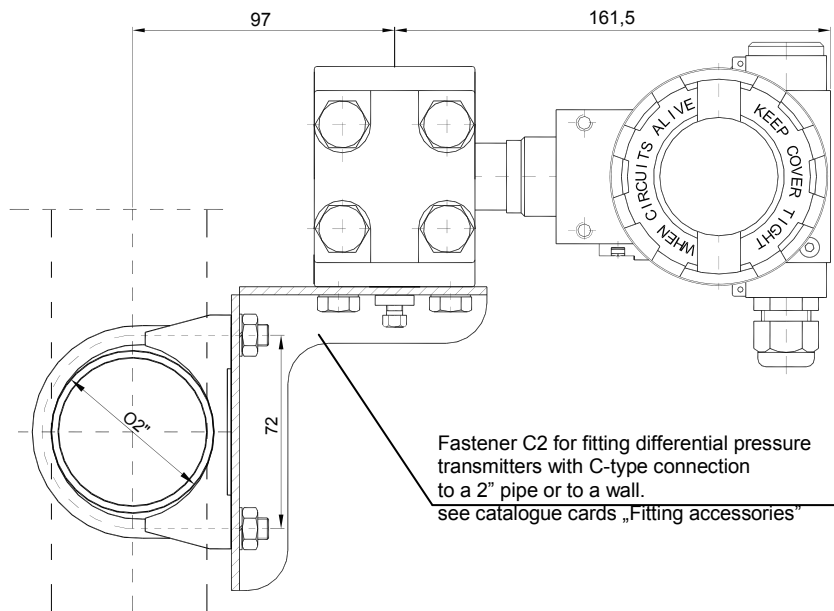

Fig.7. Example of mounting of APR-2000ALW (Ex) Safety transmitter with type C connector.
7.2.2. Transmitters **APR-2000ALW (Ex) Safety** with connector covers (type C connector) can be mounted on three- or five-way valve units to tube 2" or to flat surface, using C-2 holder (Fig.7).